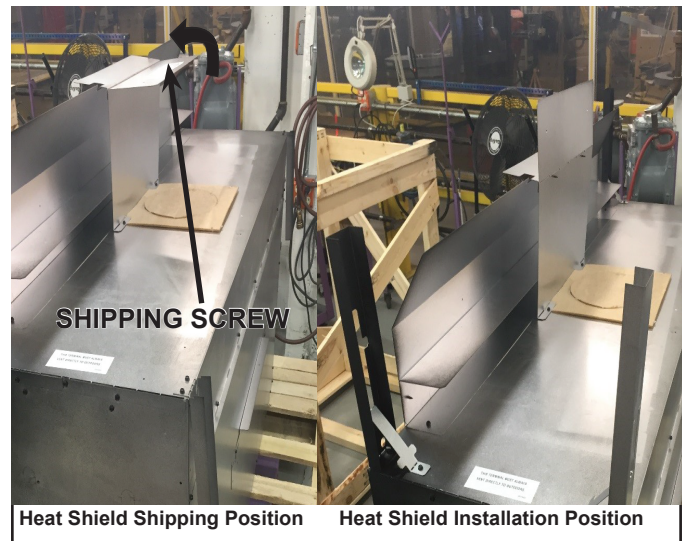

Figure 6.2 Pipe Heat Shield in Vertical Position
1. Remove and discard shipping screw. Bend the pipe heat shield up into vertical position. See Figure 6.2.